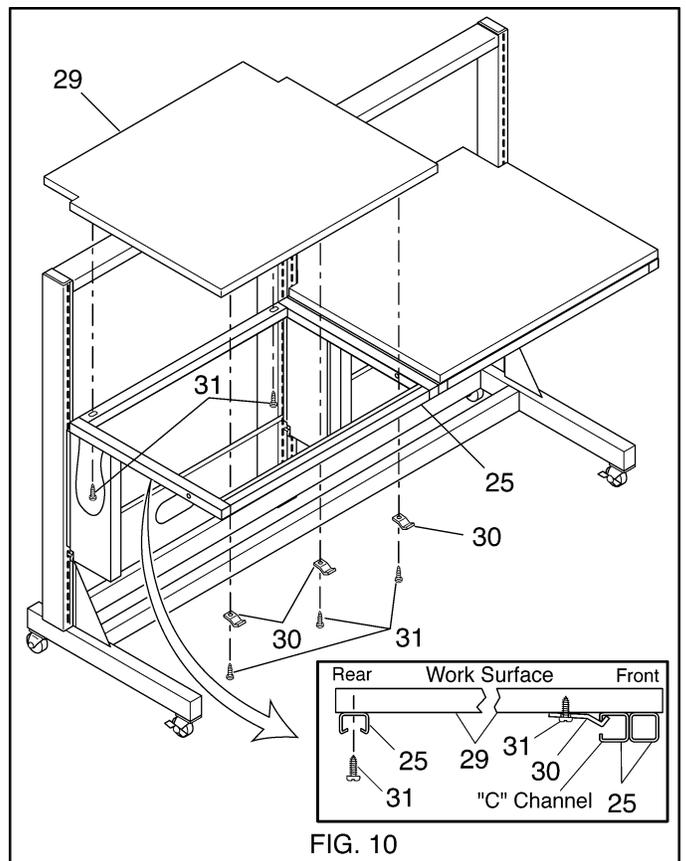

FIG. 10
(Refer to Fig. 10)
9. Position the shelf unit (29) onto the cantilever frame (25) allowing a slight overhang at the front.
10. When the shelf is properly positioned, clamp it to the cantilever frame. Attach the shelf by inserting a #10 x 1" pan head screw (31) through the slots at the rear of the cantilever frame (25) and into the shelf bottom (29). If necessary, 1/8" pilot holes may be drilled into the shelf bottom prior to inserting the screws.
11. The front of the shelf is anchored to the front of the cantilever frame using top bracket clamps (30) (See inset Fig.10) . The number of brackets required is dependent on the length of the shelf. A general rule is one bracket per foot of shelf length. These brackets clamp over the edge of the "C" channel which is part of the front cantilever frame.
12. Locate the number of top brackets (30) required. Hook each bracket over the "C" channel. Using the hole in the bracket as a guide, mark and drill 1/8" pilot holes for each top bracket.
13. Insert a #10 x 1" pan head screw (31) through each top bracket (30) and tighten clamping the shelf in place. Remove the clamps.